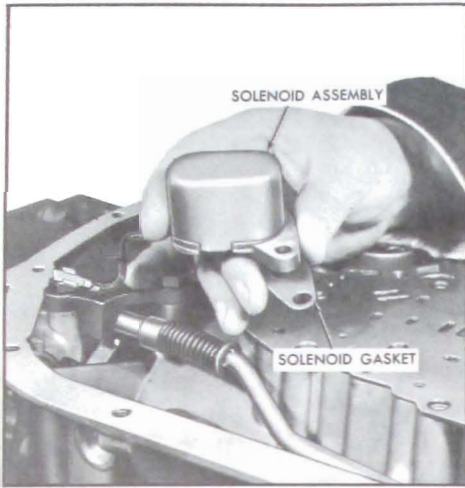

Figure 5-734
9. Install the solenoid gasket. See Figure 5-734.